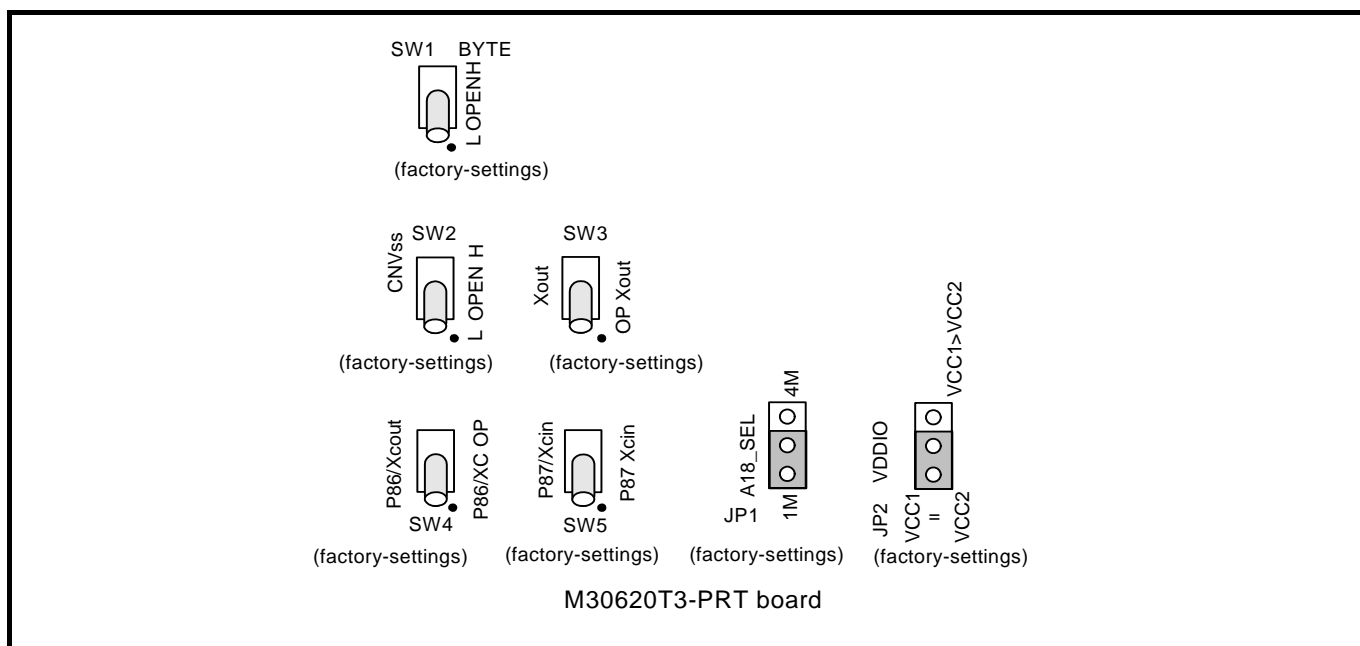

Figure 2.7 Switch settings for the self-check (factory-settings)
- (1) If the user system is connected, disconnect it.
- (2) Set the switches in the emulation pod to the factory settings as shown in Figure 2.7.
- (3) Within 2 seconds of activating power to the emulator, press the system reset switch on the emulator front panel to switch the emulator to maintenance mode.
- (4) Check the SAFE LED starts blinking and then press the system reset switch again.
- (5) The self-check will start. If the normal result is displayed in about 30 seconds, the self-check has terminated normally.